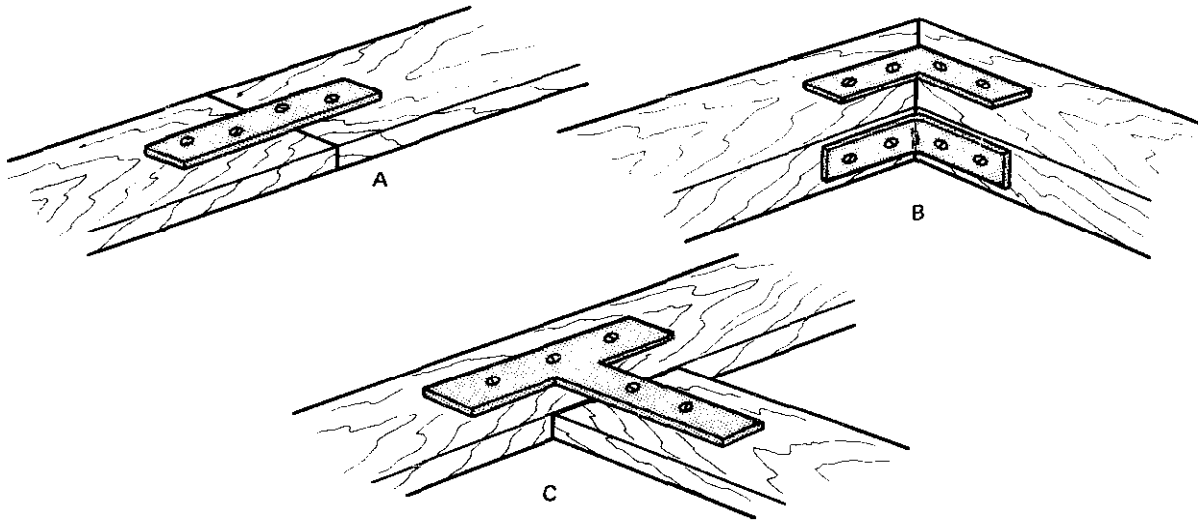

Fig. 12-37 Applications of flush plates.
3. Figure 12-37, A, shows how the straight flush plate is used to fasten and reinforce a butt joint. At B, two types of plates are shown applied to a miter joint. At C, a T-flush plate is shown applied to an angle-butt joint.